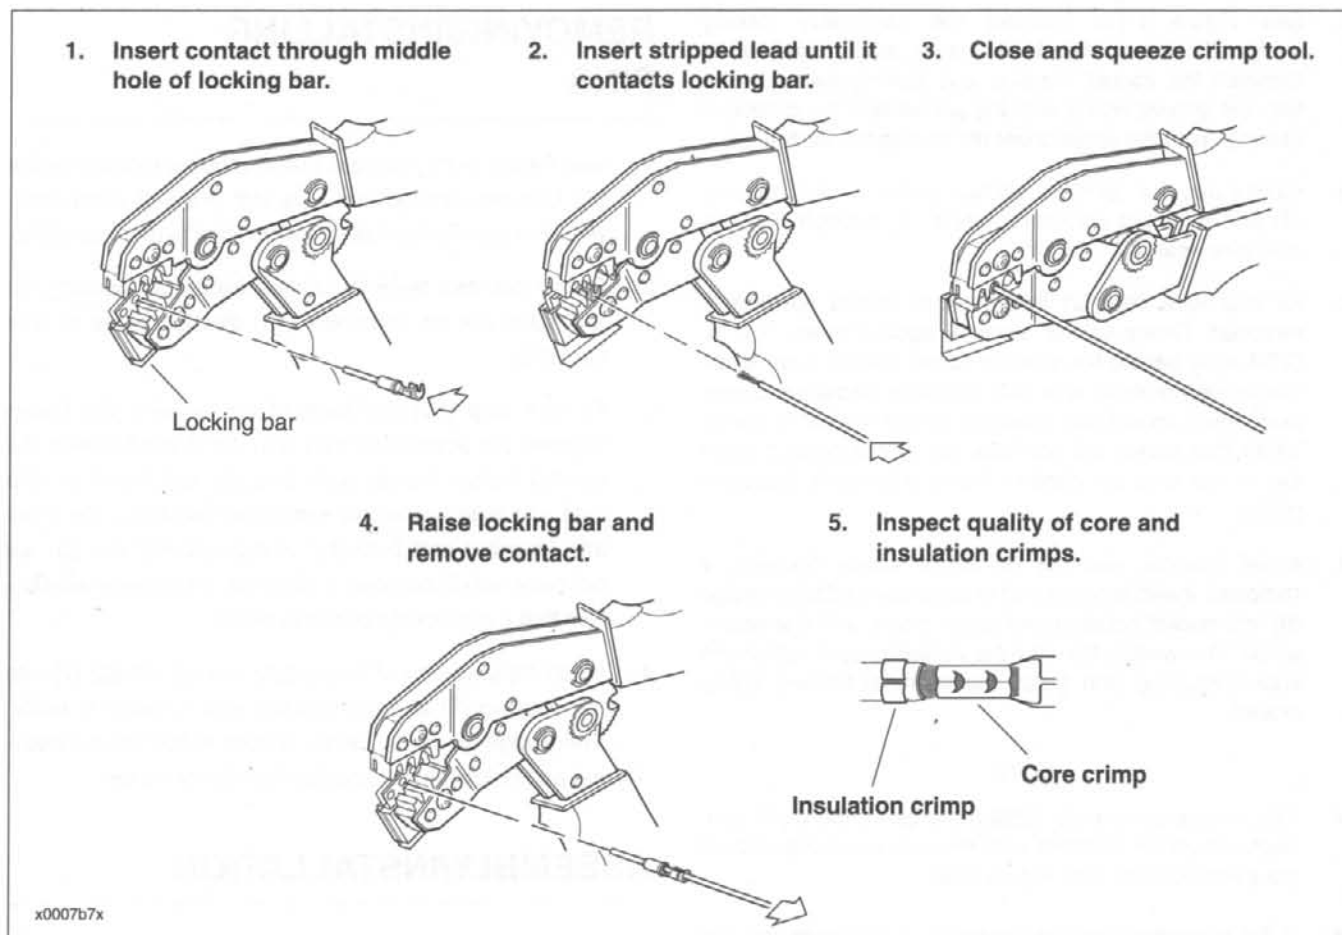

Figure 7-81. Deutsch Crimping Procedure
1. See Figure 7-81. Squeeze the handles to cycle the DEUTSCH TERMINAL CRIMP TOOL (Part No. HD-39965) to the fully open position.